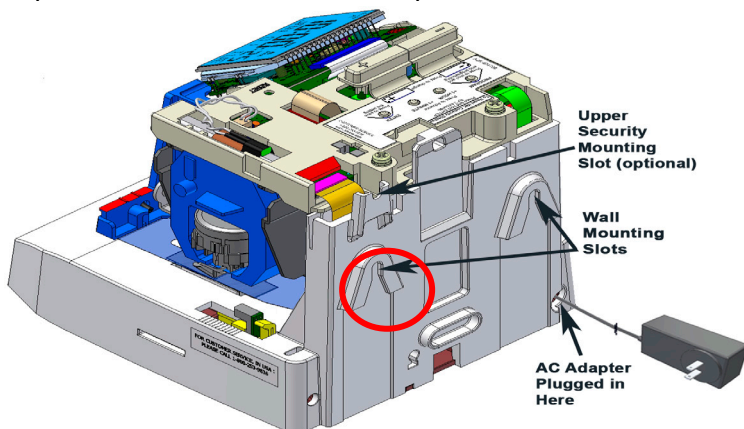

Figure 2: PIX-75 Rear View for Wall Mounting.
1. Using the supplied mounting template (see last page of this guide), mark the two (2) mounting slots on the wall. A 3rd mounting slot can be used to provide security (see Figure 2 below).
4. If security is an issue for removing the PIX-75 from the wall, remove the cover, and use the upper mounting slot (see Figure 2 below) to firmly secure the back of the PIX-75 to the wall. Secure to the wall using #10 wood screw (or equivalent).
Note – The optional security screw, if used, must be installed at a downward angle to provide adequate clearance for the cover to fit on properly (see Figure 2 on page 2-26).